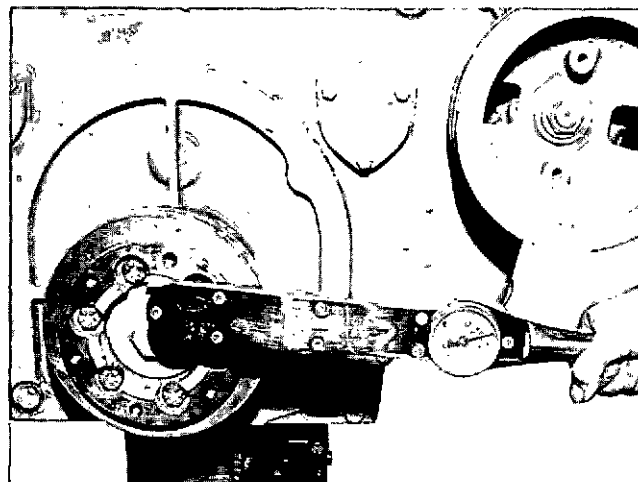

Fig. 14-1-73, V414168. Tighten spacer capscrews
1. Position spacer (if used) to fan drive pulley, install and tighten capscrews to 60 to 70 ft-lb [8.2980 to 9.6810 kg m]. Fig. 14-1-73.